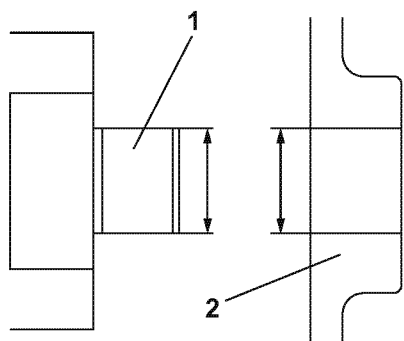

Figure 9-9
Inspect the rotor shaft clearance. Measure the outside diameter of the rotor shaft (**Figure 9-9, (1)**) and the inside diameter of the cover.